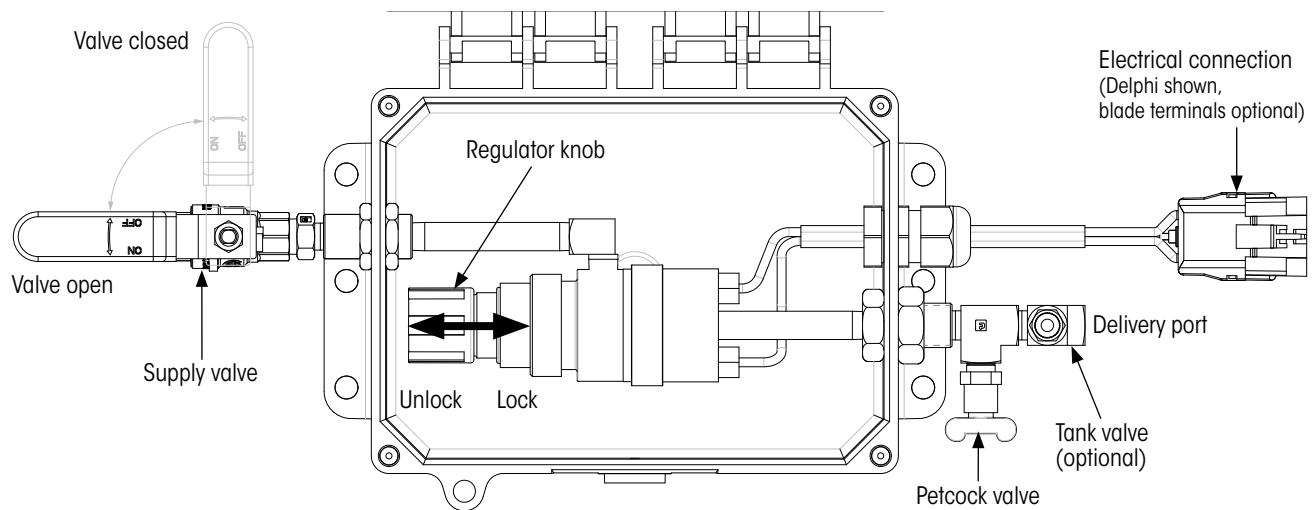

Figure 52: Setting TIREMAAX® CP Inflation Pressure
Follow this procedure to check Inflation Pressure at the delivery port (Figure 52) of a TIREMAAX CP controller.
- A. **Close** supply valve (Figure 52).
1. **Unlock** the regulator knob by pulling it away from the regulator body (Figure 52).
1. **Lock** regulator knob by pushing it in toward the regulator body (Figure 52). Ensure knob will not rotate.